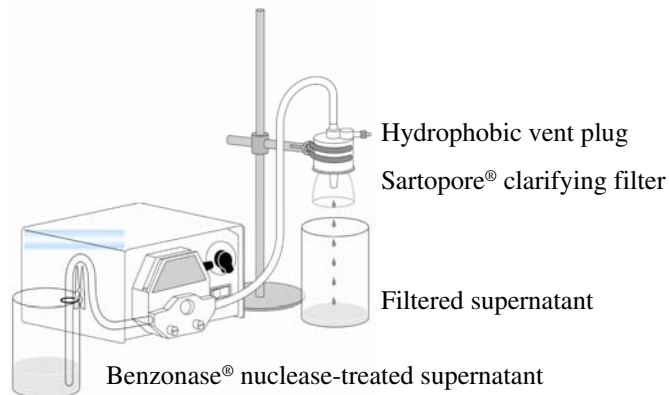

Figure 2 Sartopore® filter equipment assembly.
1. Assemble equipment as shown in Figure 2. Loosen the hydrophobic vent plug in the Sartopore filter casing. Pump the Benzonase nuclease-treated supernatant through the filter at 10–20 ml/minute. Any air bubbles trapped in the capsule housing can escape through the hydrophobic vent. Close the vent plug and pump the liquid out of the filter capsule.